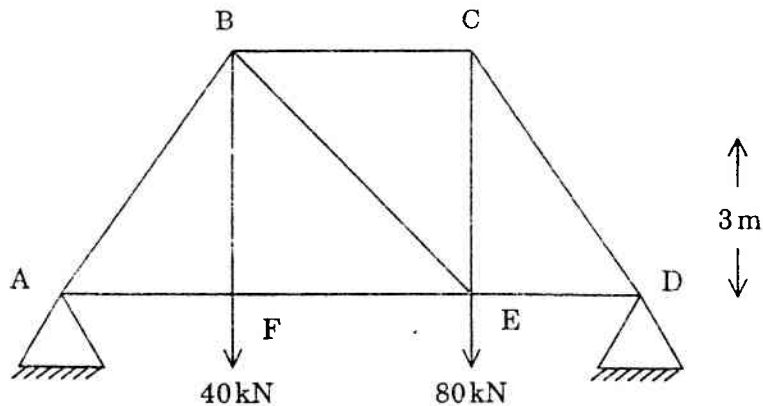

Fig. 4.
14. Determine the force in the members of the truss in Figure 4, the cross-sectional area of vertical and horizontal members is  $4000 \text{ mm}^2$  and that of the diagonals is  $6000 \text{ mm}^2$ .